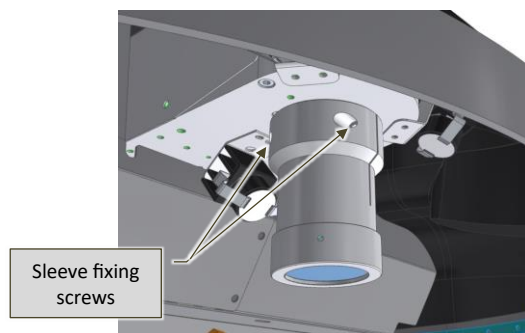

Fig. 9-79 – Preparation of the sleeve for the adjustment of the binocular (left side view)
- Look inside the microscope and, using a 3 mm hex wrench, slightly rotate the screws 1 and / or 3 present near the sleeve, until the reticle overlaps with the point where the shot hit the blade (Fig. 9-79).
INFORMATION !: Always approach the alignment point with small movements and keeping the test plate stable. Never completely unscrew the adjustment screws (1 and 3) and DO NOT touch the screw 2 (Fig. 9-79).